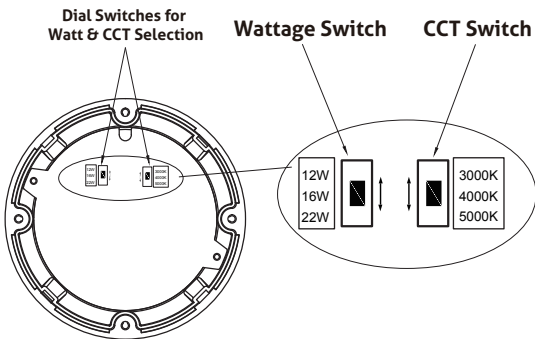

Fig 9
- 1. DIP switches are located inside the fixture. (see **Fig. 9**). To access, use the included allen wrench to loosen screws on fixture head, then lift up.